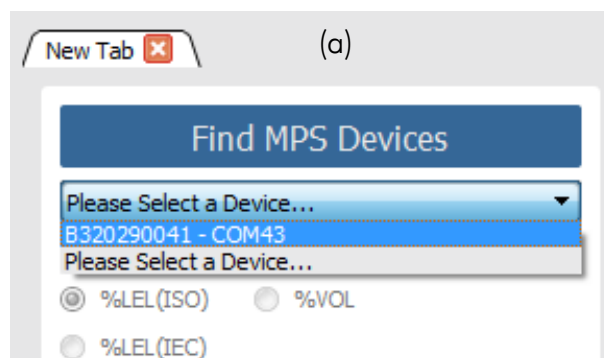

Figure 3 – Selecting the active MPS™ A2L Refrigerant Gas Sensor.
5. Click the “Find MPS Devices” button and select the MPS A2L Refrigerant Gas Sensor connected to the computer (Figure 3). The sensor name is found on the sensor serial number in the form: Bxxxxxxx.